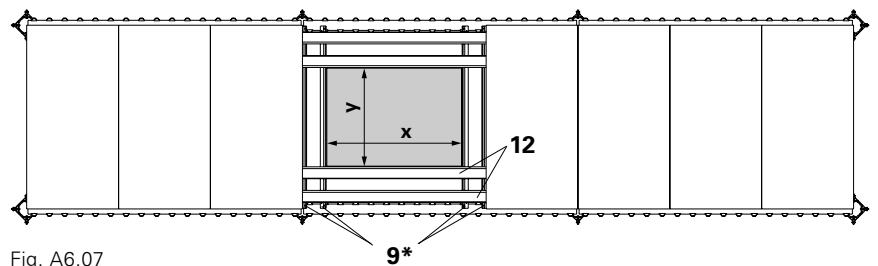

Fig. A6.07
Install Edge Beam SRT 150-2 (9*) in a suspended position. Lay Filler Timber SPH 150 (12) in a flat position. Permissible widths of influence for flat Filler Timber SPH, see Table A6.02 on next page. (Fig. A6.07 + A6.08)